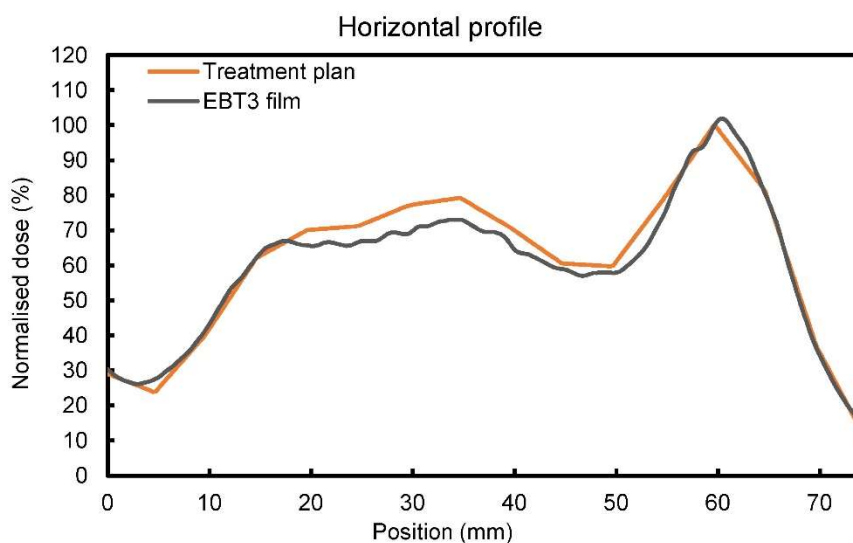

FIG. 1. Horizontal profile along the axis passing through the point of the reference dose.
9. Compare the measured versus calculated dose profiles along the two major orthogonal axes passing through the isocentre. See examples in Figs 1 and 2.